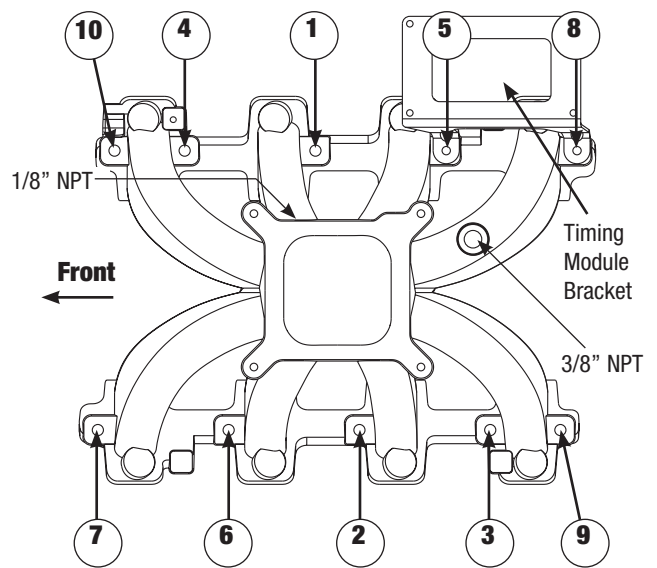

Figure 1 - Intake Manifold Tightening Sequence
2. (2908 & 29087 Only) The Gen III throttle bracket mounts under the two (2) driver side rear intake manifold bolts.
3. Following the torque sequence in **Figure 1**, torque all manifold bolts to 11 ft/lbs. **NOTE:** 28456 requires the use of the included aluminum spacers placed between the Timing Module Bracket and the Intake Manifold. The longer 70mm bolts are used in these bolt hole locations (#5 & #8).
5. (#2908 & 28456 Only) Apply a bit of liquid Teflon thread sealant to the threads of the supplied 1/8" NPT to 1/4" hose fitting and install the fitting into the 1/8" NPT hole in the passenger side of the plenum (**See Figure 1**).